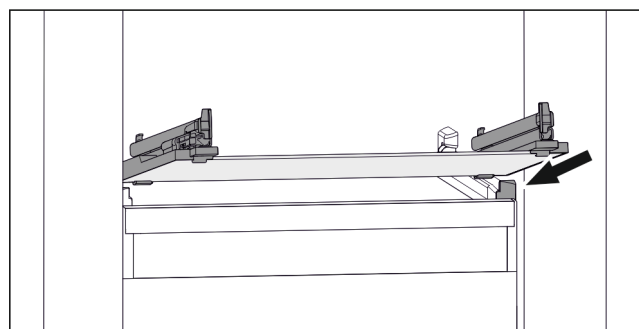

Fig. 118 Example illustration of glass shelf
- ▶ Position glass shelf at an angle behind the stoppers. (see Fig. 118)